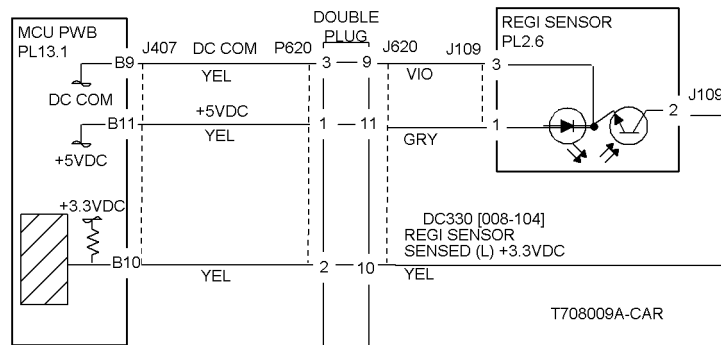
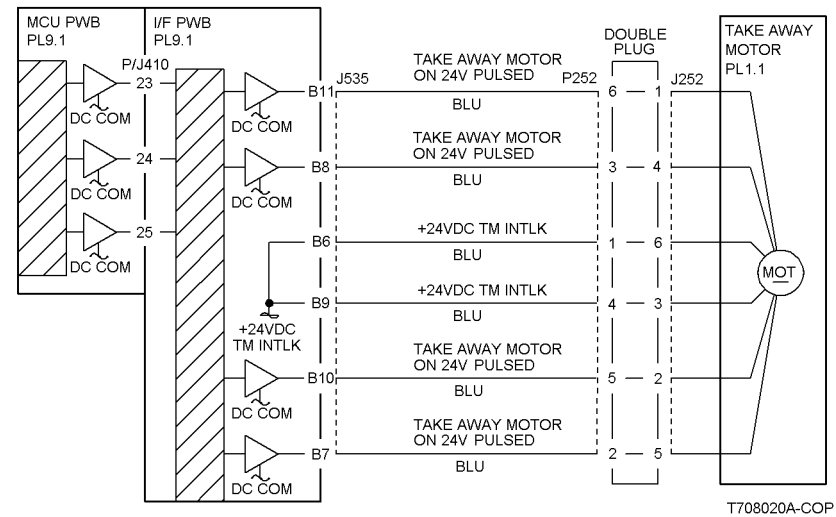

Figure 1 Registration Sensor CD
Figure 2 Takeaway Motor CD
- Ensure that the connectors shown in the circuit diagrams (Figure 1, Figure 2) are securely connected and that the wires are not damaged.